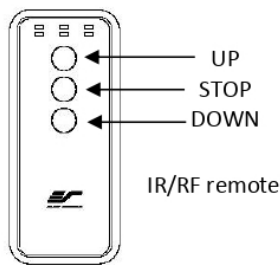

Fig.1
1. **IR remote control (Item A, Fig 1):** The Infrared functions by direct line of sight contact using a beam range of 30 feet. Aim the IR remote at the circular window located on the left side of the screen.